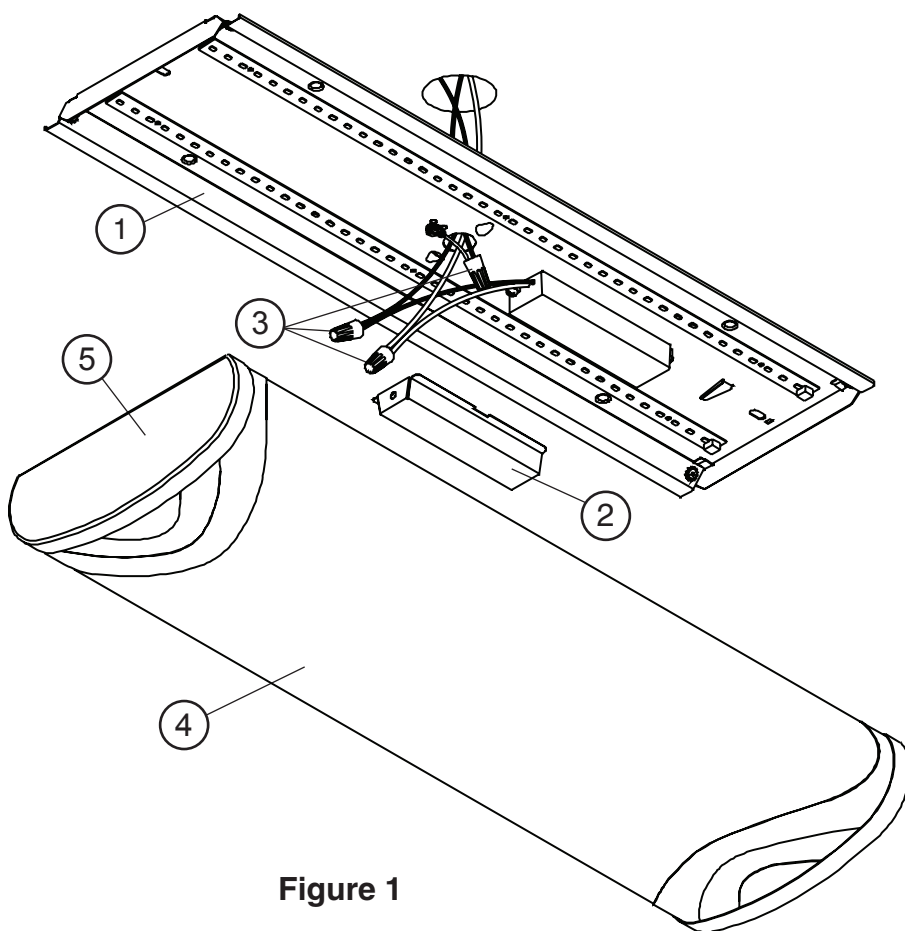

Figure 1
2. Remove the Wireway Cover (2) by compressing the sides and dis-engaging from the Fixture Housing (1) **See Figure 1.**